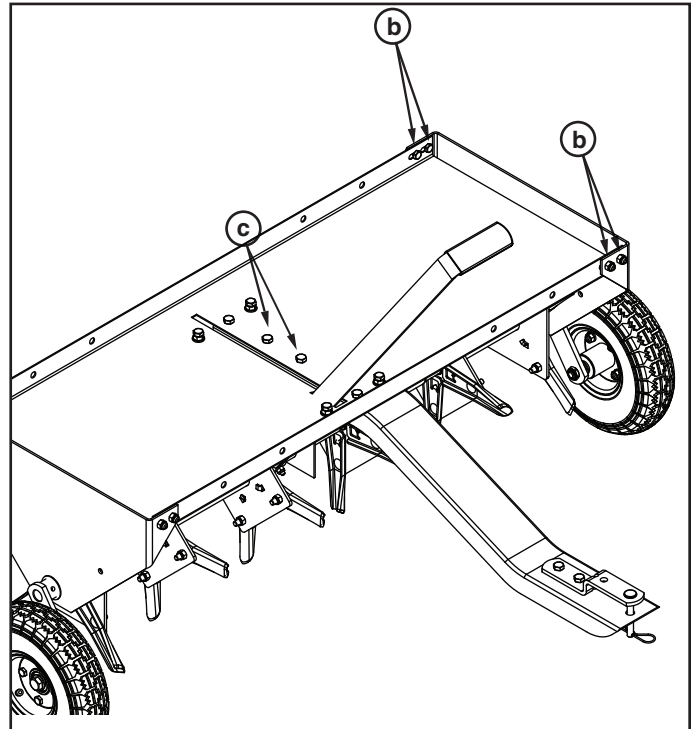

FIGURE 13
- Perform the following steps in sequence to tighten the bolts and nuts that remain loose. Refer to figure 13.